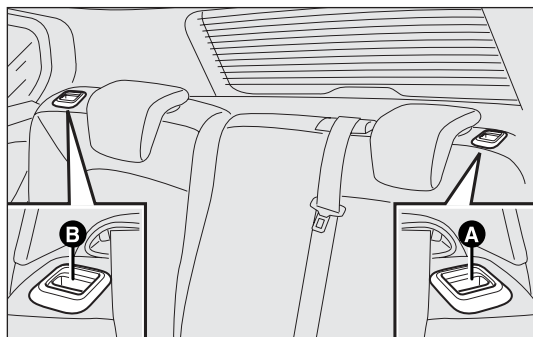

fig. 93
- ☐ lift handle A or B-fig. 93 to release either the left or right part of the backrest and guide the backrest down on to the cushion.